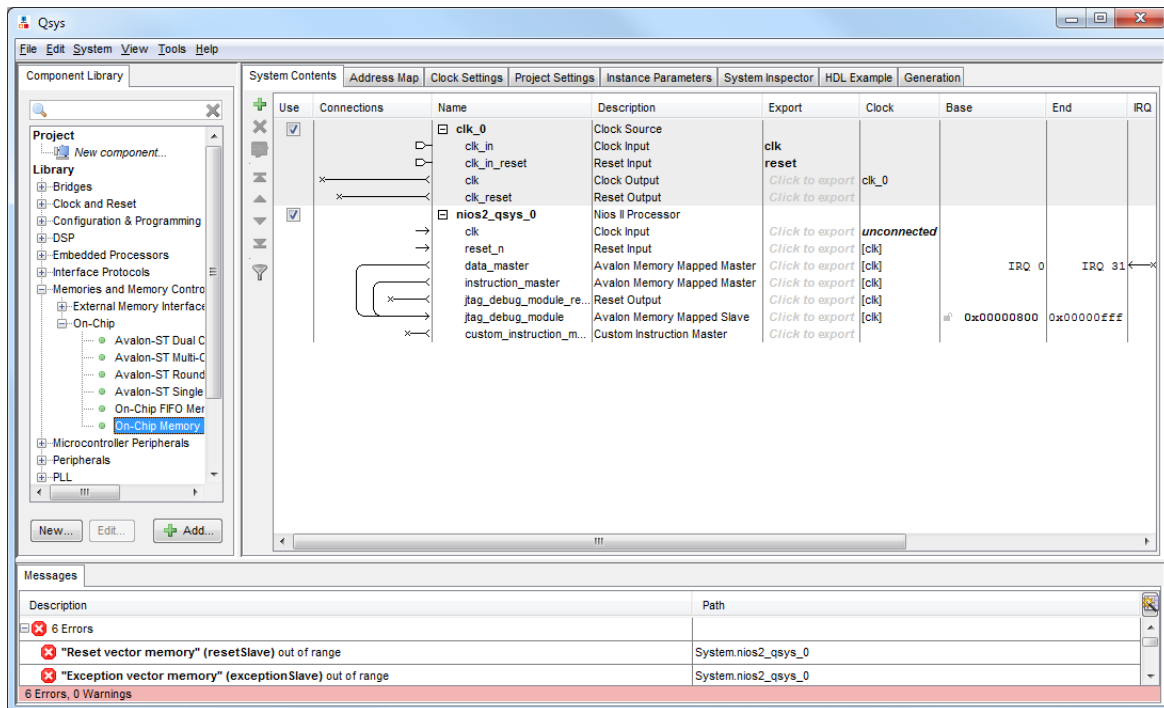

Figure 7. Inclusion of the Nios II processor in the design.
- Choose Nios II/s which is the standard version of the processor. Under Hardware Arithmetic Operation, choose **NONE** in the dropdown menu for multiplication type; also do not check the box for hardware divide. The Nios II processor has *reset* and *interrupt* inputs. When one of these inputs is activated, the processor starts executing the instructions stored at memory addresses known as *reset vector* and *interrupt vector*, respectively. Since we have not yet included any memory components in our design, the Qsys tool will display corresponding error messages. Ignore these messages as we will provide the necessary information later. Click **Finish** to return to the main Qsys window, which now shows the Nios II processor specified as indicated in Figure 7.